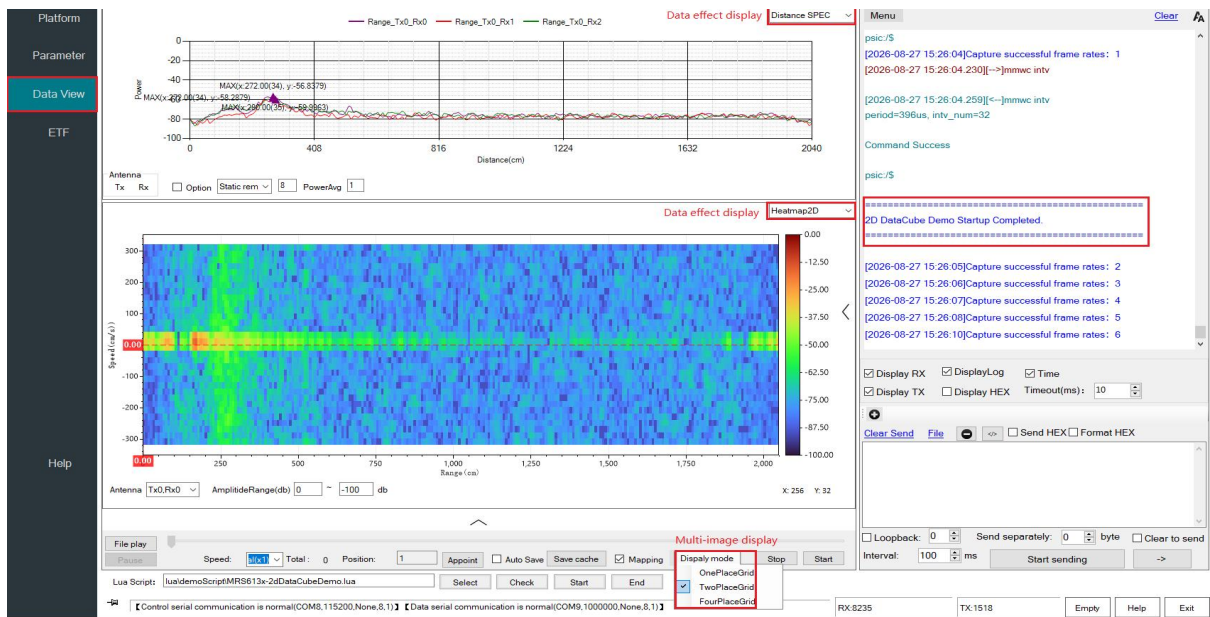

Figure 2-12 Data View
2. The software automatically switches to Data View. Select the view to display: Range Spectrum, Doppler Spectrum, Range-Doppler Heatmap, or IQ Plot. Under Display Layout, you can display multiple plots simultaneously, as shown in Figure 2-12. For details, see Data View Display (DataCube).